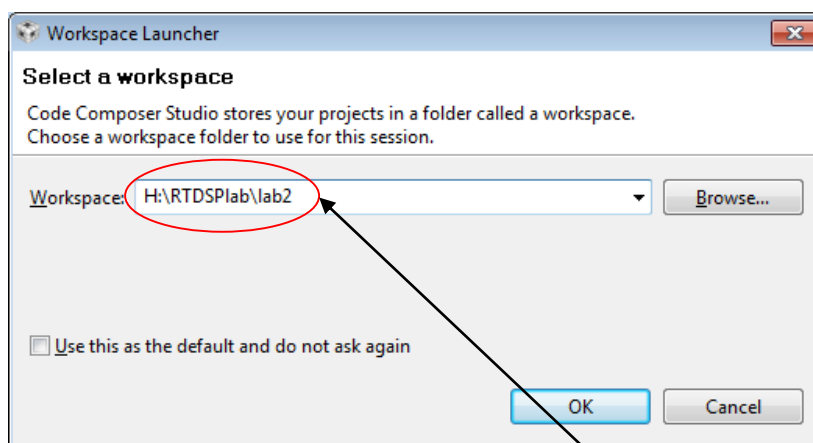

Figure 1: Creating a new workspace for lab2
- You are asked to select (or create a new) workspace. Create a new workspace called **lab2** under your **RTDSPlab** folder. Ensure the **Use this as the default and do not ask again** check box is **NOT** checked. The dialogue should look like figure 1.